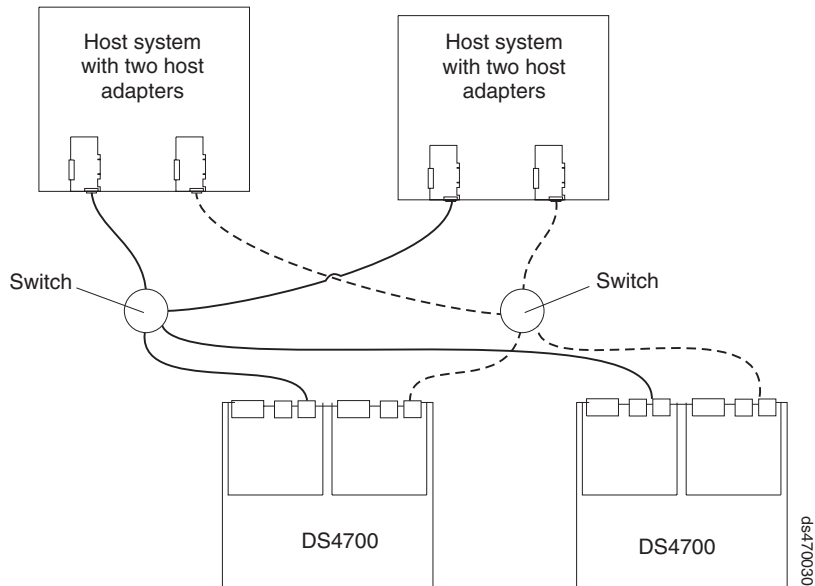

Figure 89. Example of two storage subsystems in a dual SAN environment
- Two storage subsystems in a dual SAN fabric configuration, as shown in Figure 89 on page 108
In Figure 89 on page 108, the fibre channel switches are not connected together. Each switch forms its own SAN fabric.